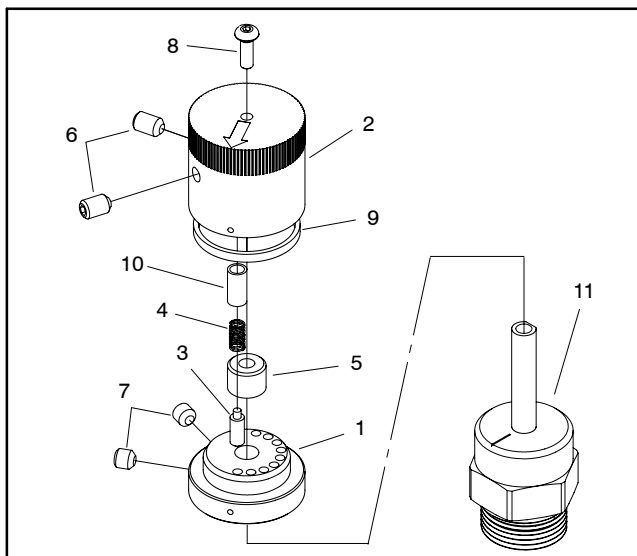

Figure 60
1. Remove rotary handle from valve (Fig. 60):
- A. Loosen two (2) set screws that secure handle cap.
- D. Loosen two (2) set screws that secure handle base to flow control valve and remove base.
6. Install rotary handle (Fig. 60):
A. Place handle base on flow control valve and position alignment mark on base with number 1 on manifold. Secure base with two (2) set screws. Apply a light coating of grease to chamfer on top of base to ease seal installation.
D. Make sure that alignment marks on cap and base are in line and that arrow on cap is pointing to number 1 on manifold. Tighten two (2) set screws to secure handle cap.